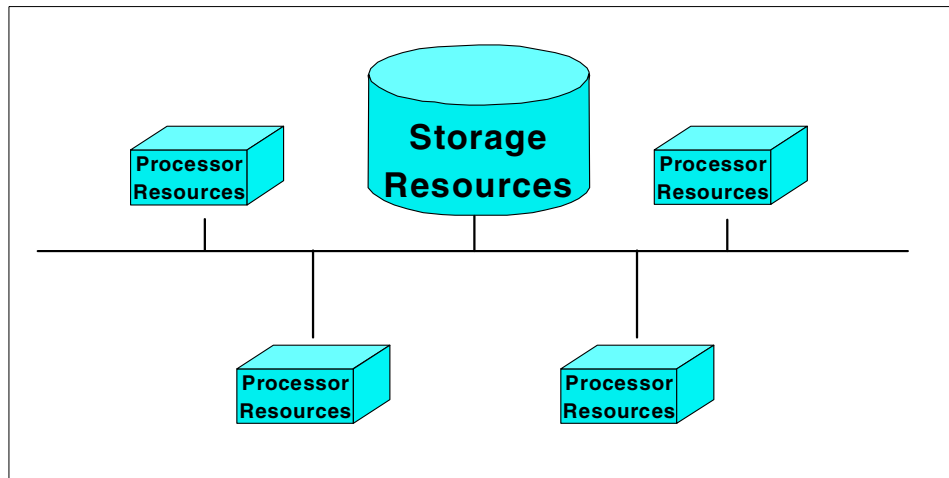

Figure 3. Network attached storage
- **Network attached storage** — The storage resource expected to be shared among multiple processor resources is attached directly to the network (see Figure 3). This second connection type is called *network-attached storage*.